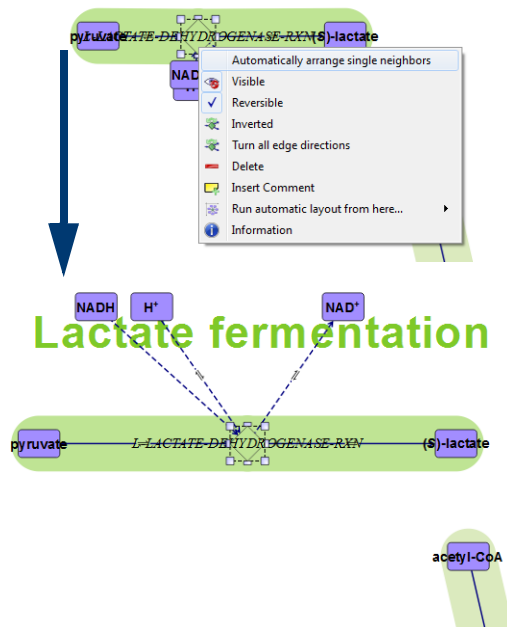

Figure 68 Automatically arrange single neighbors to arrange cofactors
- c Right-click on the L-LACTATE-DEHYDROGENASE-RXN node, and then click **Automatically arrange single neighbors** to organize the nodes as shown in Figure 68.